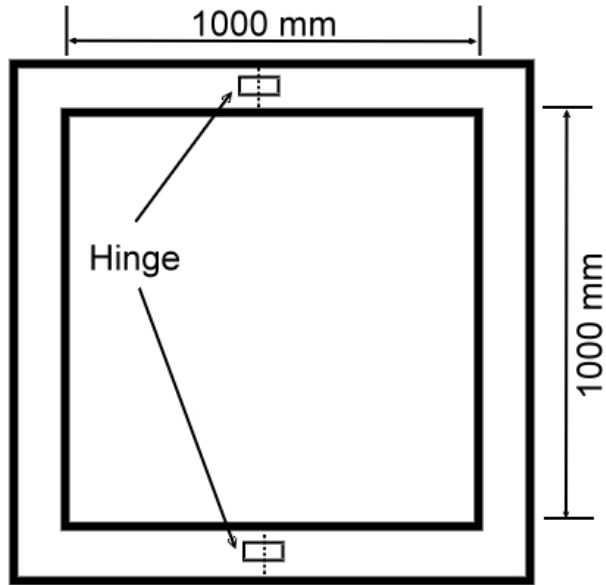

Fig. 1 Plan view of template (not too scale)
- a. 1 m² metal template (Fig. 1).